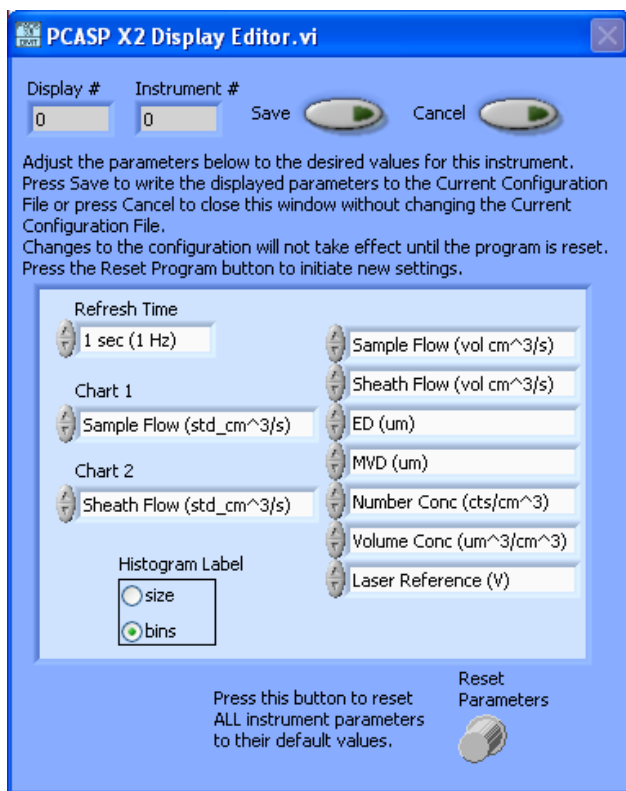

Figure 4: PCASP-X2 Display Editor Window
**Peak Max Width (usec):** This parameter is used as a filter to remove signals that are either noise or produced by particles that are recirculating in the sample cavity. The instrument's pump maintains a constant flow velocity, and the length of time a particle is in the beam should also be approximately constant. The transit time of each particle is measured, and if it exceeds the peak max width it will be rejected. Excessively long transit times can be caused by coincidence, i.e. multiple particles in the beam at the same time, or by particles in the sample cavity that recirculate and pass through the beam at a lower velocity than the main airflow. See Figure 4 for a diagram of how Peak Max Width and other parameters determine particle events. The setting for this parameter depends on your individual instrument and should be listed in your calibration data packet.
**Peak Min Width (usec):** This parameter is used as a filter to remove signals that are electronic noise or produced by particles that pass through the edges of the laser beam. An aerodynamic nozzle that uses clean sheath air to focus the aerosol stream is used to direct the aerosols through the center of the laser; however, there will be the occasional particle that passes near the edge of the laser where the intensity is lower. See Figure 4 for a diagram of how Peak Min Width and other parameters determine particle events. The setting for this parameter depends on your individual instrument and should be listed in your calibration data packet.
**Hysteresis:** This parameter is defined in digital units, and it allows the program to filter out minor signal variations that are due to noise. After a particle is detected, the primary signal must go below [ADC Threshold - Hysteresis] before the program looks for another event. The ADC threshold is listed in the **Tables** tab under "ADC Lower Threshold." See Figure 4 for a diagram of how Hysteresis and other parameters determine particle events. The setting for this parameter depends on your individual instrument and should be listed in your calibration data packet.
**End Particle:** This parameter allows the program to filter noise. It acts similarly to **Hysteresis** but applies to time, and it prevents double-counting of peaks. After the end of a peak, [End Particle]  $\mu$ sec must elapse before another particle event is recognized. See Figure 4.